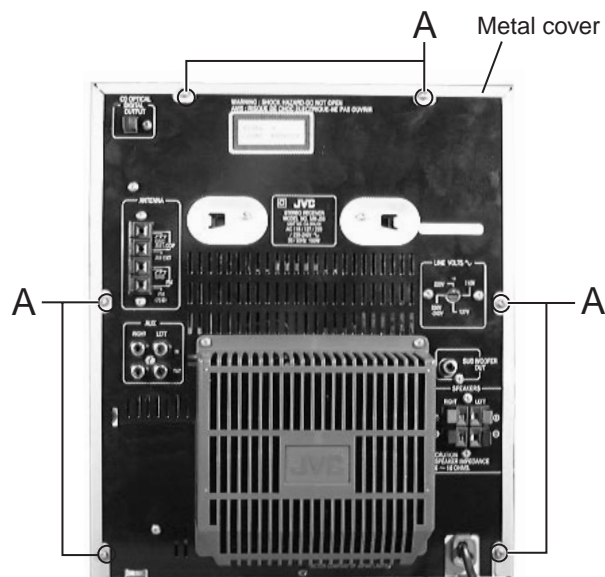

Fig.1
■ Removing the Metal Cover (See Fig.1 to 3)